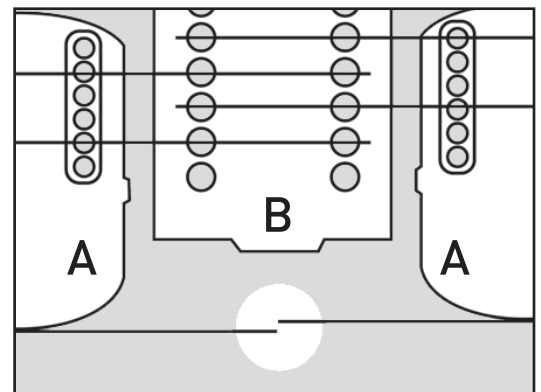

Figure 2
If you need to make small adjustments, move the mounting screws, T-nuts and blocks to the next set of holes, fore or aft. (See Figure 2) To make the smallest adjustment possible, it may be necessary to use the next set of holes, fore or aft, in BOTH the mounting blocks (A) and the Slider Track (B).